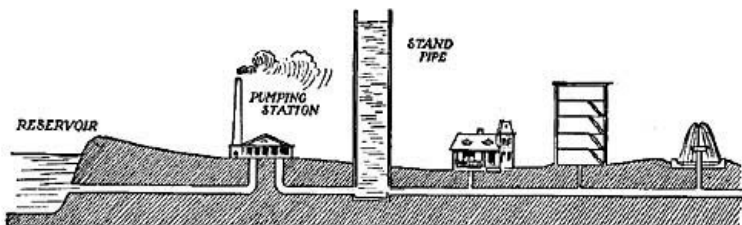

FIG. 154.—Water must be got to the houses by means of pumps.
**198. The Cost of Water.** In the gravity system, where an elevated lake or stream serves as a natural reservoir, the cost of the city's waterworks is practically limited to the laying of pipes. But when the source of the supply is more or less on a level with the surrounding land, the cost is great, because the supply for the entire city must either be pumped into an artificial reservoir, from which it can be distributed, or else must be driven directly through the mains (Fig. 154).